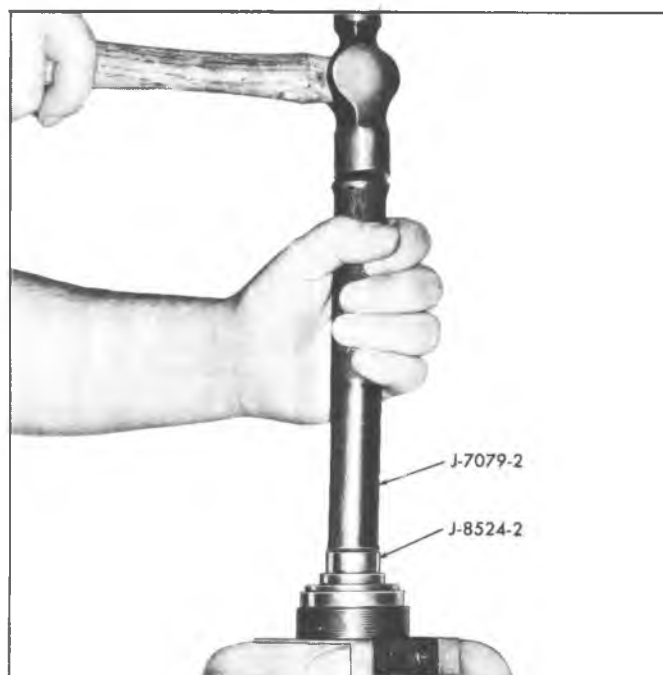

Fig. 39--Removing Bearing and Seal
3. If the needle bearing is to be replaced, remove the retaining ring using Internal Pliers J-4245. Remove thrust bearing as outlined in Step 2 above. Drive needle bearing, dust seal and oil seal from adjuster plug using Bearing Remover J-8524-2 and Driver J-7079-2 as shown in Figure 39. Discard the oil seal.